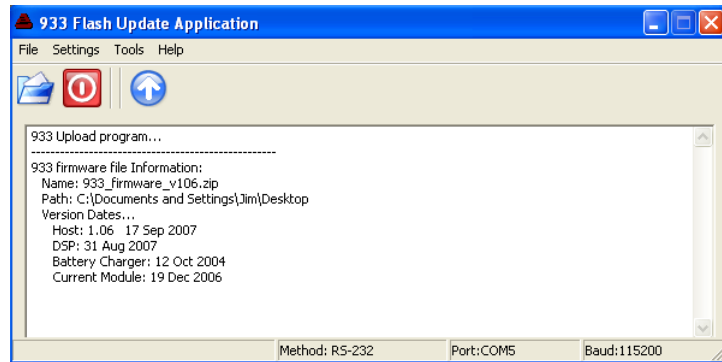

Figure B.2: File Information for Newly Extracted Firmware
- Click the Open button or select File > Open. Browse to locate the zipped firmware that you downloaded, select the file and click Open. The uploader should automatically extract the zipped file ready for upload to the 933A. The uploader window should appear as in Figure B.2 and provide the firmware information.